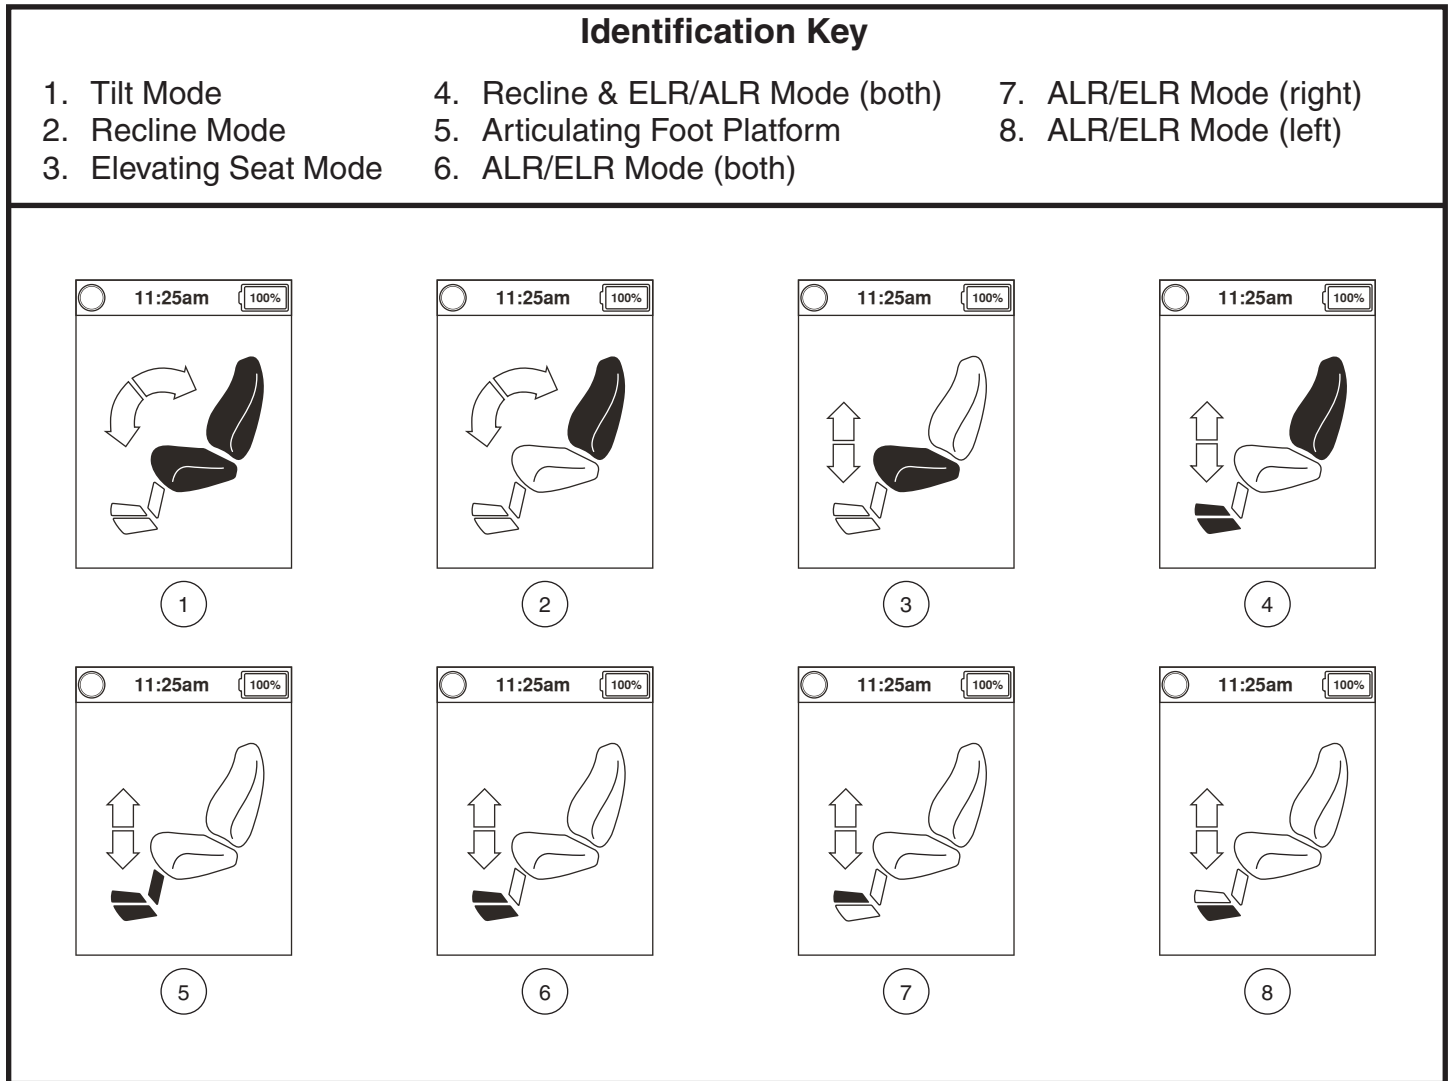

Figure 1. Actuator Selection
2. Push the On/Off and Mode Select Lever up several times until the seat screen is displayed on the LCD or push the key 2 select button once to go directly to actuator mode.
3. Push the joystick to the left or right to cycle through the available actuators until the desired actuators are illuminated on the actuator indicator. **See figure 1.**
2. Push the On/Off and Mode Select Lever up several times until the seat screen is displayed on the LCD or push the key 2 select button once to go directly to seat screen. **See figure 1.**
3. Push the joystick to the left or right to cycle through to the elevating seat mode, this is illuminated on the actuator indicator. **See figure 1.**